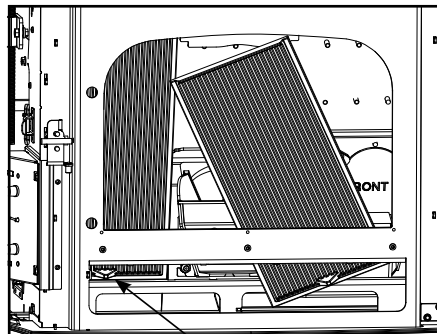

Figure 5.5a
4. Tip the top of the heat exchanger toward the door opening until it can be lifted up and out. Figure 5.5a